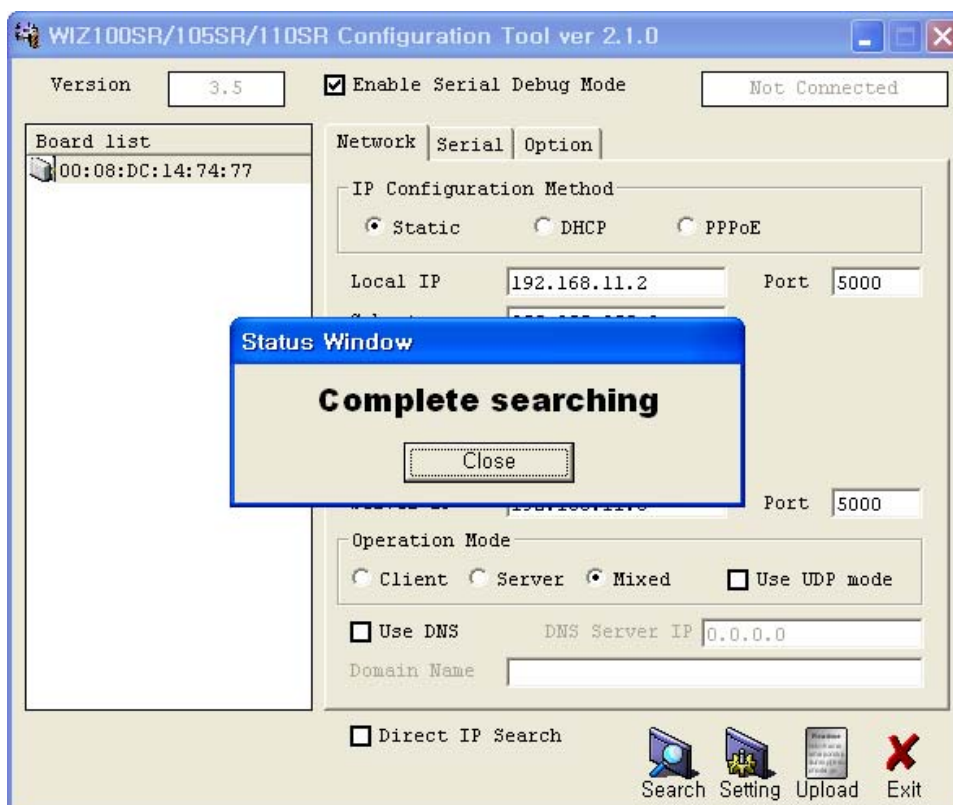

Figure 10. Board Search Window
3. As shown in Figure 10, select Option tab and check 'Enable' combo box of "Password" menu.
- ① Select a module shown in "Board list", and click "Upload" button.
- 👉 Before uploading through Ethernet, you should set the network information of WIZ105SR first by Configuration Tool program as shown above Fig 10. By using Ping test, you can check if network is correctly configured.
- ② When the window as shown below Figure is displayed, select file for upload and click "Open" button.